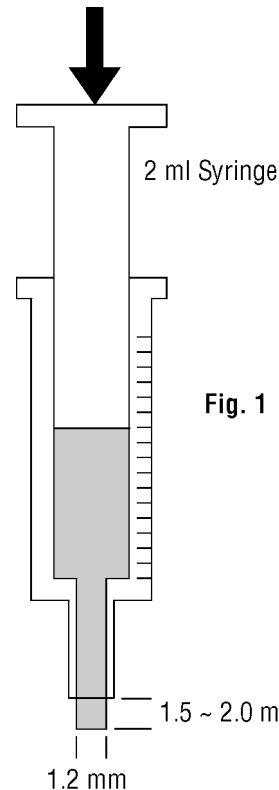
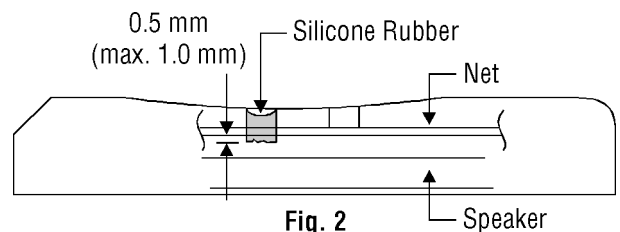
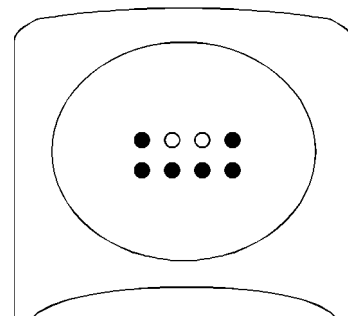

Fig. 1
Fig. 2
Fig. 3
- Apply pressure to the syringe until a small amount of silicone comes out, approx. 1.5 to 2 mm of silicone as shown in Figure 1. This amount is sufficient to fill one hole. Hold the syringe vertical to the hole to be filled and make certain that all of the silicone is pushed inside the hole. The amount of silicone used to fill the hole is critical: if too much is used, the silicone will penetrate the speaker net and might touch the speaker (Figure 2). Repeat the process for all of the six holes indicated in Figure 3.